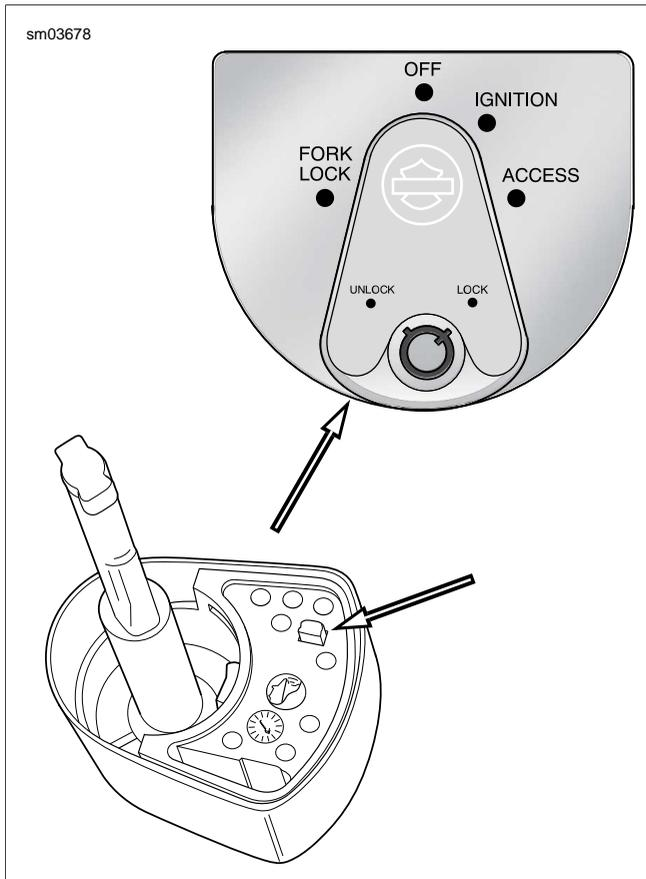

Figure 8-60. Ignition Switch Knob Release Button (Top and Bottom Views)
- c. Depressing the release button at bottom (left side) with a small screwdriver, push key down and turn 60° in a counterclockwise direction. See Figure 8-60.
- a. Verify that button at bottom of knob is depressed and key is turned 60° beyond the UNLOCK position. See Figure 8-60.